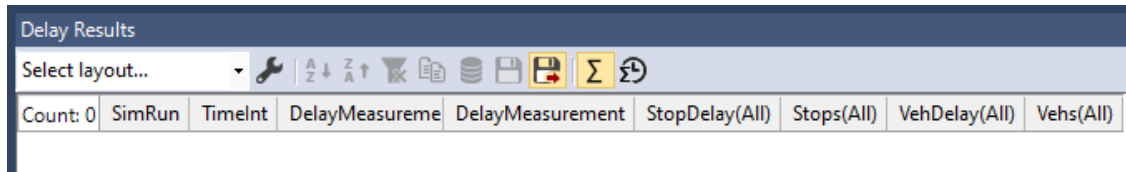

Figure 37: Delay Results: Autosave and Simulation Run Aggregate buttons selected
- step iv. Click *OK*, and then ensure the sigma  and floppy disk with red arrow  icons are selected (see Figure 37).